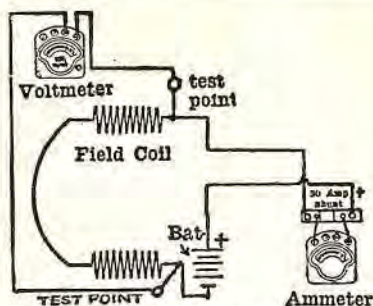

Fig. 12. Testing a generator by observing the amount of current taken by the shunt-field winding.
2. By making a "battery test" of the amount of current drawn by the shunt-field windings, by connecting a battery across the shunt-field circuit with armature disconnected (Fig. 12).
Method 2: By connecting a battery to the shunt-field winding terminals (Fig. 12) with an ammeter in series with the circuit, the ammeter should show 3 to 3.5 amperes. With a voltmeter across the circuit, as shown in Fig. 12, it should indicate 5.9 volts.